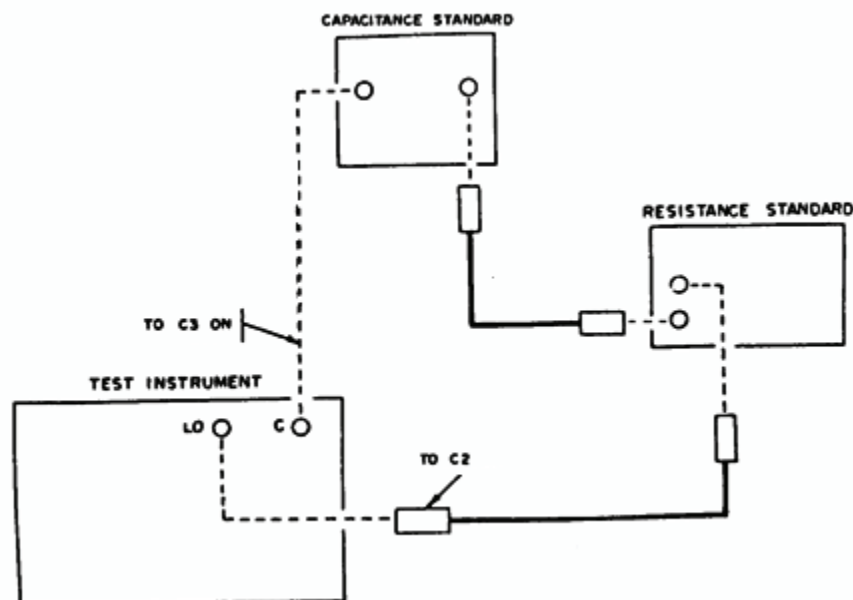

Figure 4. Dissipation - equipment setup.
- (1) Connect equipment as shown in figure 4.
- (2) Adjust resistance standard to 31.85 Ω.
(3) Adjust **TI LRC** dial, **D-Q SERIES** dial, and **DET GAIN** control for best null indication on meter. **D-Q SERIES** - dial will indicate between 1.88 and 2.12.
(4) Repeat technique of (2) and (3) above, using resistance standard settings listed in table 7. **D-Q SERIES** dial will indicate within limits specified.